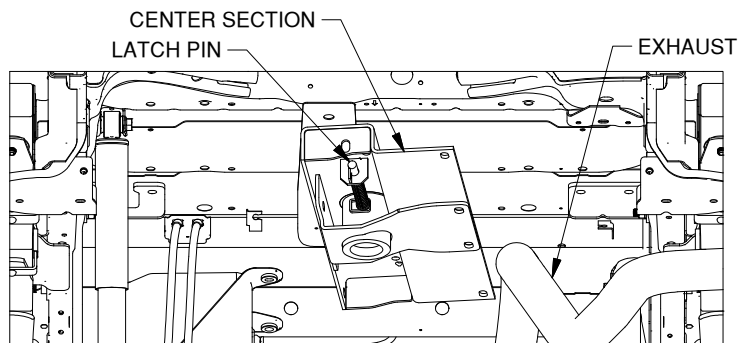
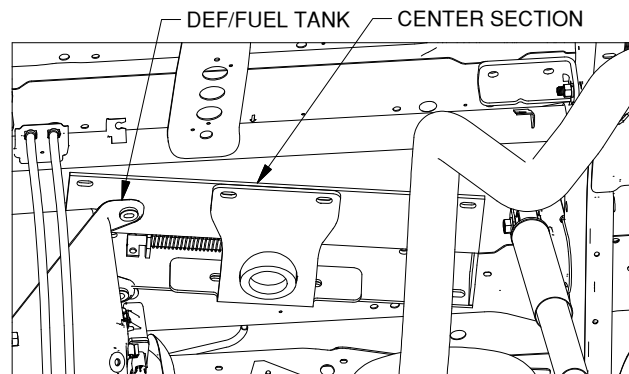

Figure D1: Looking up under truck bed (towards cab)
Figure D2: Looking up under truck bed (over differential)
- 1. Maneuver center section into place.** Locate the center section. With the raised portion of the center section up and the latch pin toward the rear of the truck, lift the center over the differential from the rear. Continue moving center section over the differential and toward the passenger side in front of the downturn in the exhaust pipe, see Figure D1. Rotate the center section and lift the latch pin side over the fuel tank so that the center section is perpendicular to the centerline of the truck, see Figure D2.